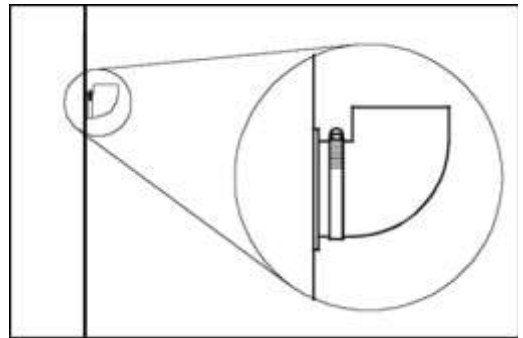

Fig. 3.23
- Assemble the protective elbow at the steam exhaust facing upwards and fastened with the flange (Fig. 3.23)